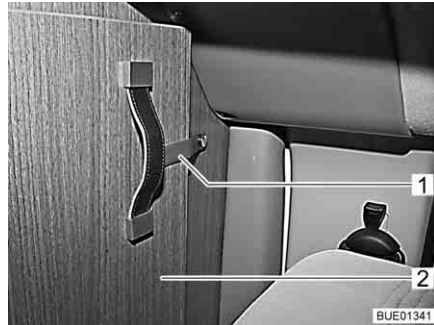

Fig. 50 Securing strap
- Release the securing strap (Fig. 50,1) from the foldable section of the driver's cabin partition (Fig. 50,2).